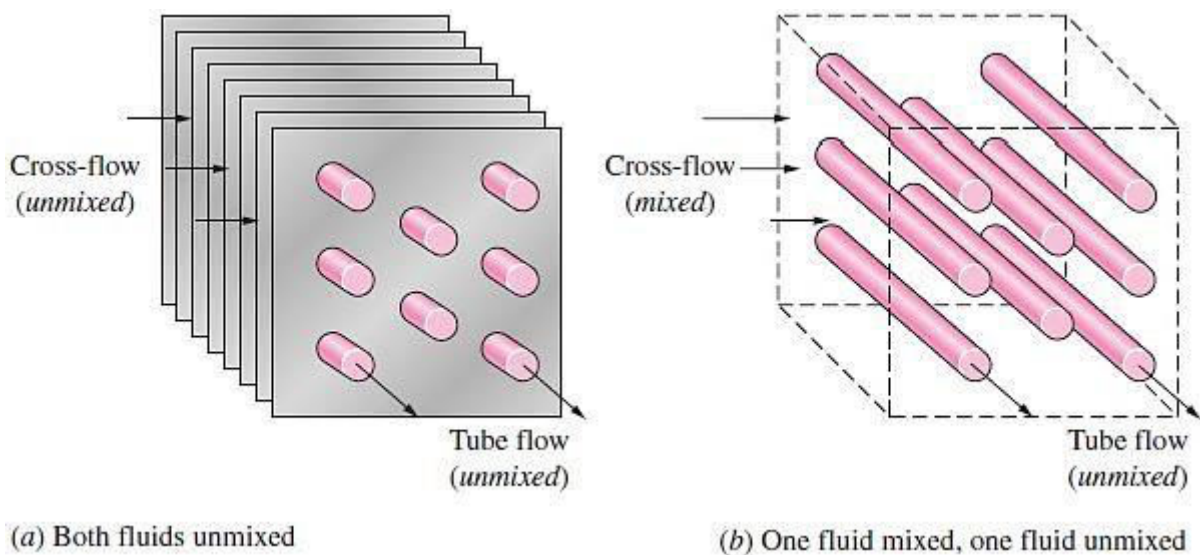

Fig.9.3 Different flow configurations in cross-flow heat exchangers
- Fig.9.3 shows different configurations used in cross-flow heat exchangers.